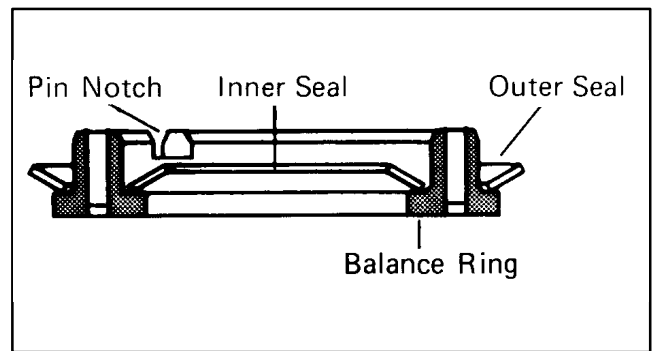

Figure 83
37. Apply petroleum jelly to inner and outer face seals. Install seals on balance ring as shown in Fig. 83.
IMPORTANT: Install face seals in the positions shown in Fig. 83. or the motor will not operate properly. Do not force or bend the face seals. Any damage to these seals will affect the operation of the motor.
NOTE: Install face seals in the positions shown in Fig. 83. or the motor will not operate properly. Do not force or bend the face seals. Any damage to these seals will affect the operation of the motor.